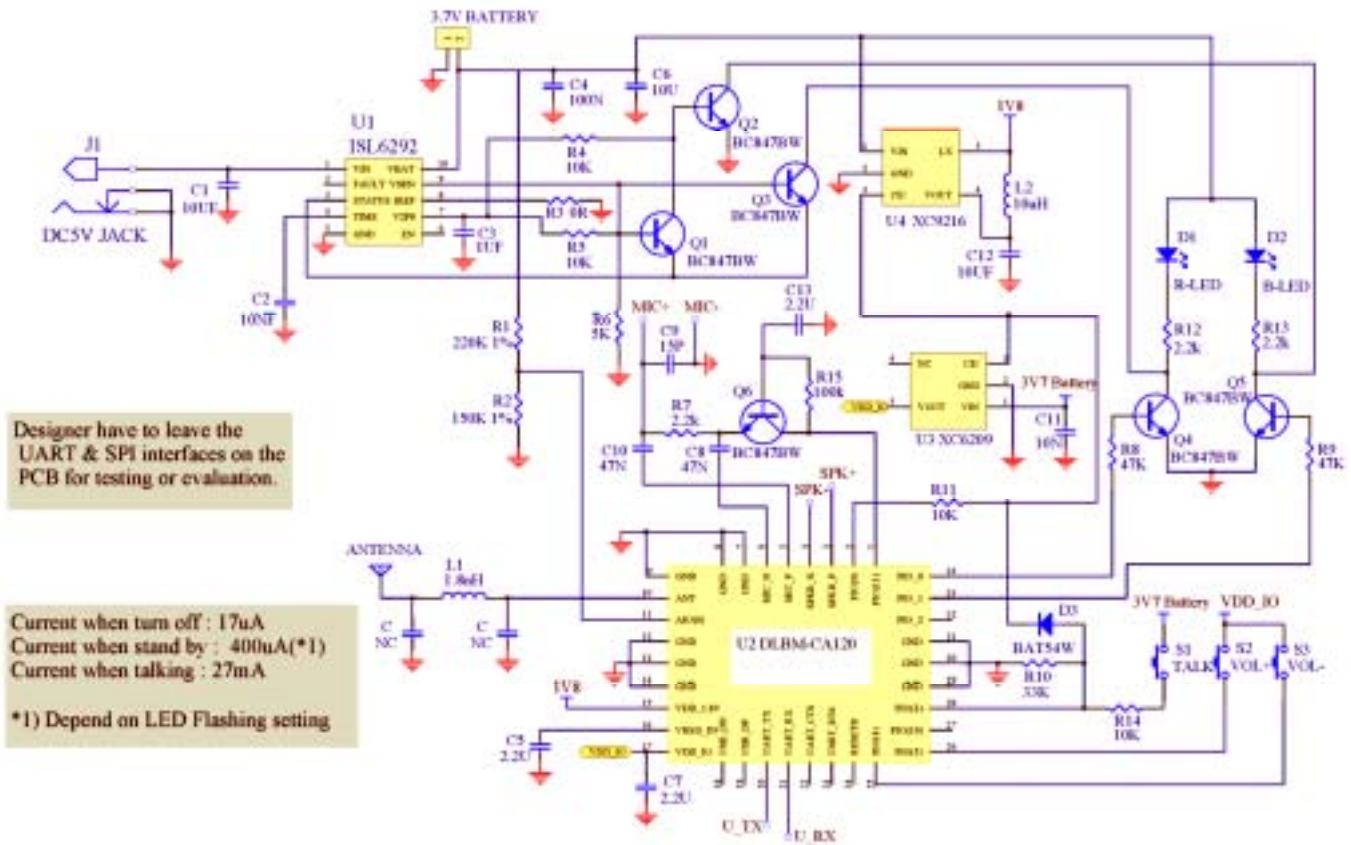

Figure 7. Headset application circuit
* Base on application circuit figure 7*